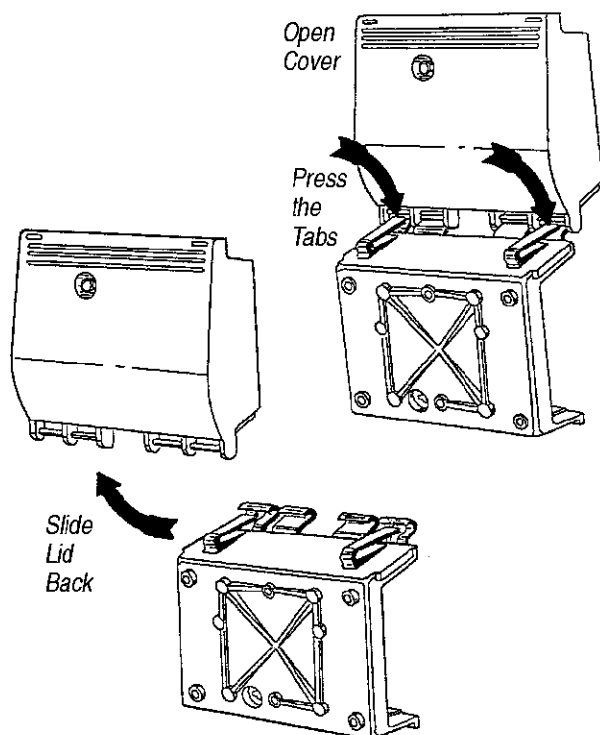

Figure 3
- b. Press and hold the tabs down, then slide the cover back, as shown in Figure 3.